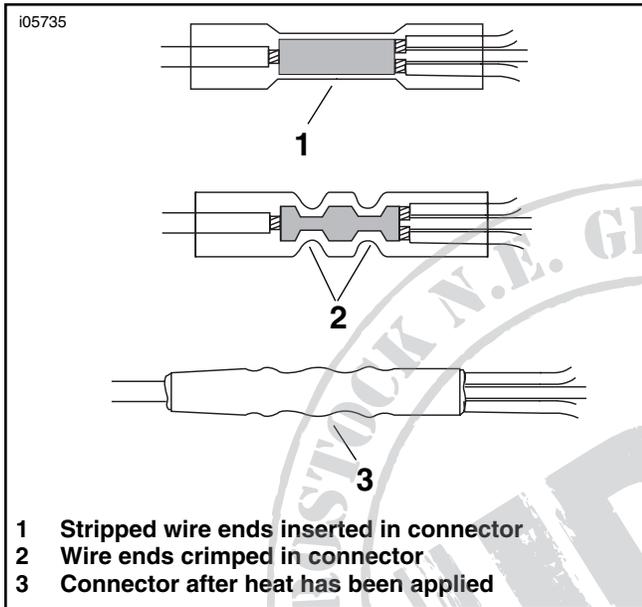

Figure 5. Install Sealed Butt Connectors
- See Figure 5. Splice the other end of the connector into an accessory wiring circuit (9) on the main harness near the rear lighting connector (2) under the seat (orange or orange/white wire).
- Route wires into plastic wire channel (4) and bundle excess wires and place at front of battery (3). Proceed to FINAL ASSEMBLY.
- See Figure 5. For each splice, insert the wire ends into the splice connector as shown.